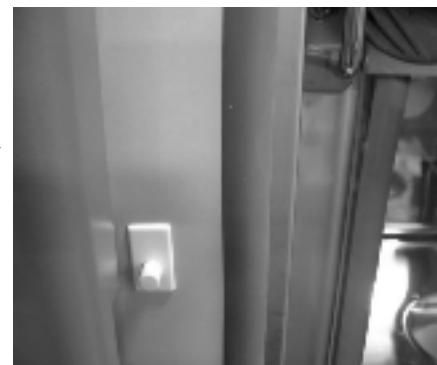

Figure 7-7. Door Switch
7. Open both doors to the incubator. Tape down the door switch (Figure 7-7) on the face of the unit. This ensures the humidity nebulizer operates in a 8 seconds on, 2 seconds off continuous cycle.